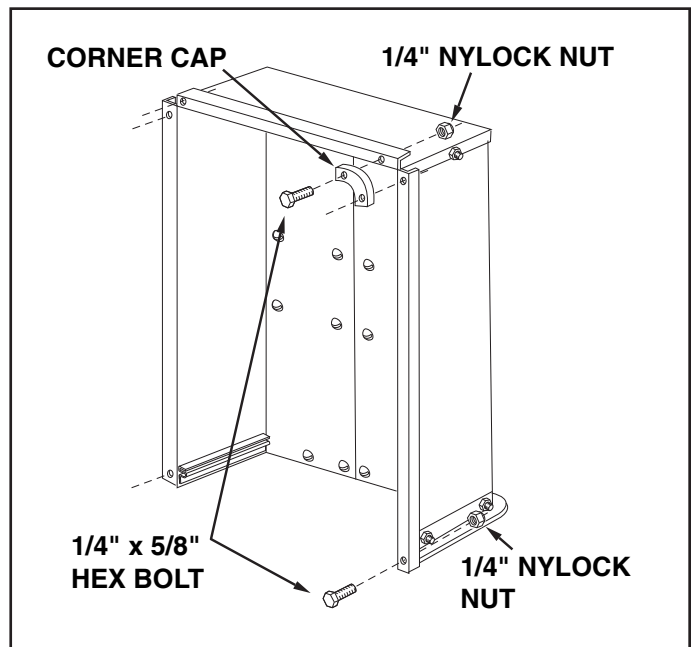

FIGURE 8
- Assemble the two corner caps to the front corners of the cart using four 1/4" x 5/8" hex bolts and 1/4" nylock nuts. Also assemble two 1/4" x 5/8" hex bolts and 1/4" nylock nuts to the two rear corners of the cart. **TIGHTEN**. See figure 8.